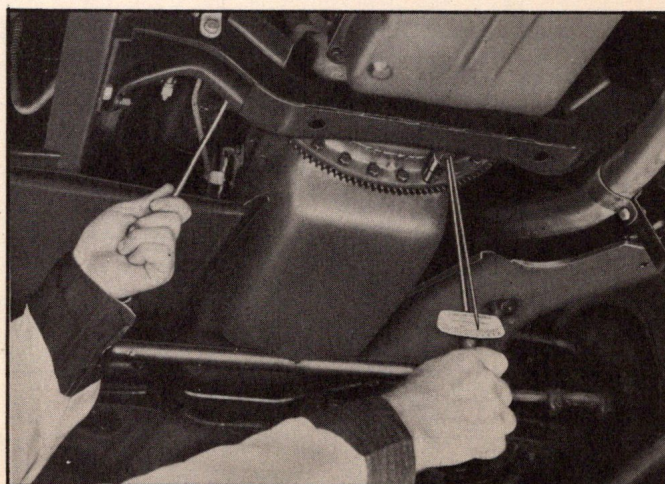

Fig. 316—Tightening Torus Cover to Flywheel Bolts with Torque Wrench
a. Tighten two bolts adjacent to dowels 12-15 lb. ft. torque (Fig. 316).